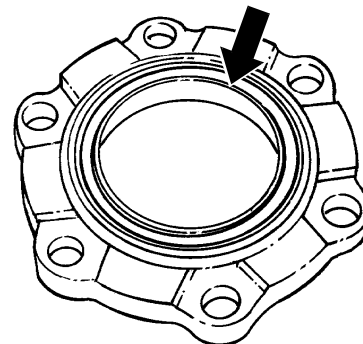

Figure 92 - Sealing Ring - Installation
- e. Press the sealing ring (Fig 92) into the sealing ring retainer using a replacer (Table 2, Item 41).